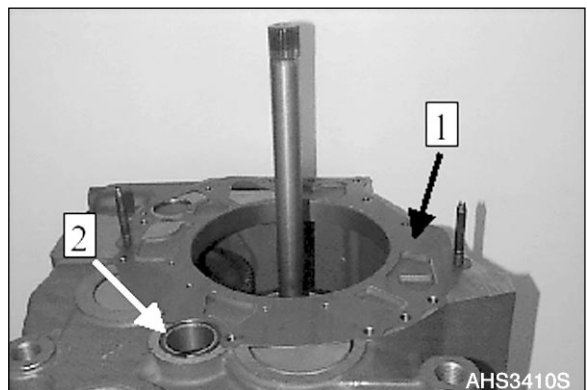

Figure 393
- 20. Install two adjusting screws and mount flat gasket (1, Figure 393).
- 21. Lay O-ring (2, Figure 393) into the annular groove.